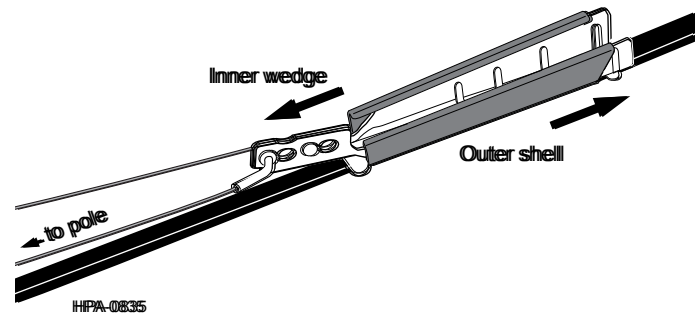

Figure 7
Step 2: Slide the inner wedge into the shell on top of the cable and shim. Slide the shell/shim away from the pole as you slide the wedge toward the pole (Figure 7).